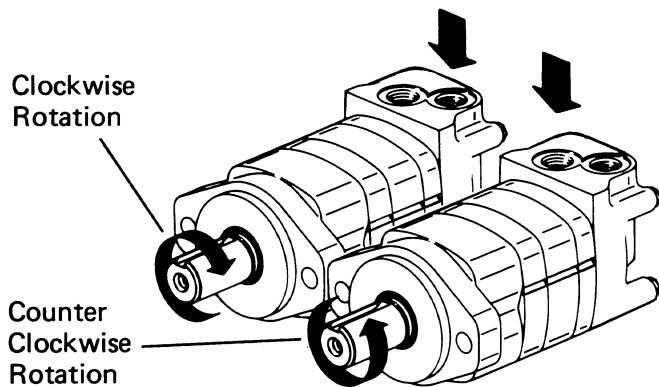

Figure 13
**Timing Step # 3—** Locate any one of the side openings of the valve and align this opening with the open slot of the valve plate that is in line with the largest open pocket of the Geroler. Install the valve by rotating it clockwise until the spline teeth engage (1/2 spline tooth max. ). This will provide the proper rotation when pressurized as shown in Fig. 13.